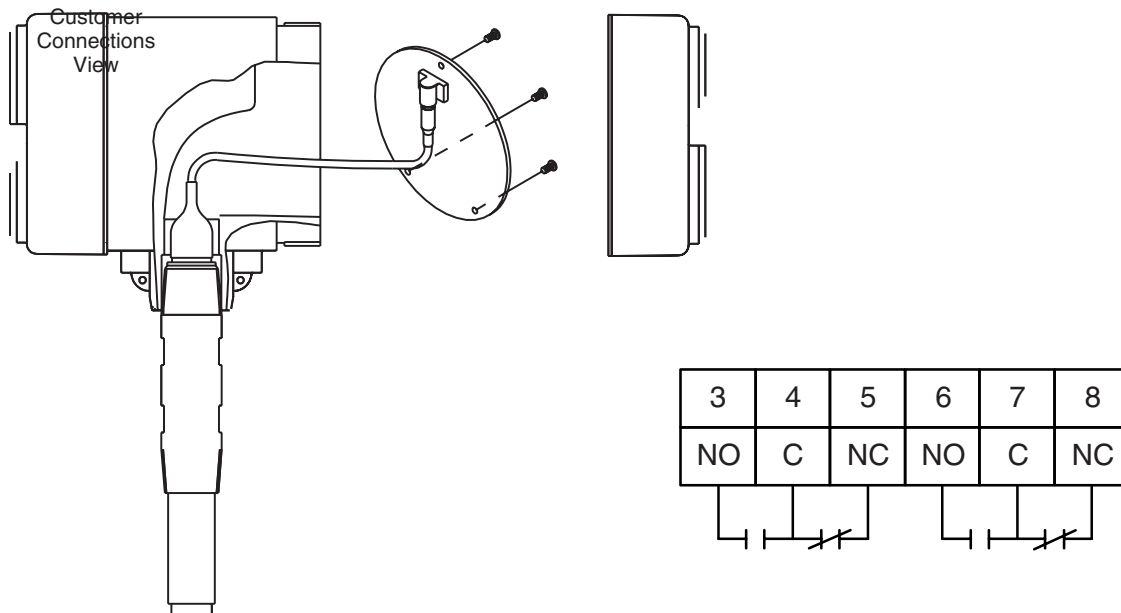

Figure 4-1
- A. Relay circuits consist of a single-pole double-throw relay contacts brought out to terminal strips for external switching. See **Figure 4-1**.
Integral electronics, *Ref figure 4-1:*